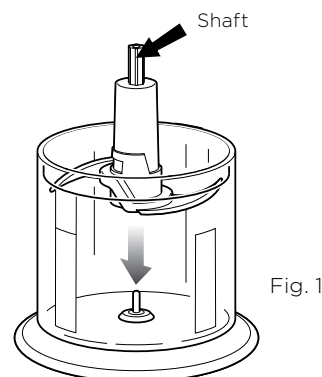

Fig. 1
- 3 Holding the Lower Chopping Blade Assembly by the shaft, place it over the spindle pin inside the Master Prep bowl. **(fig. 1)**